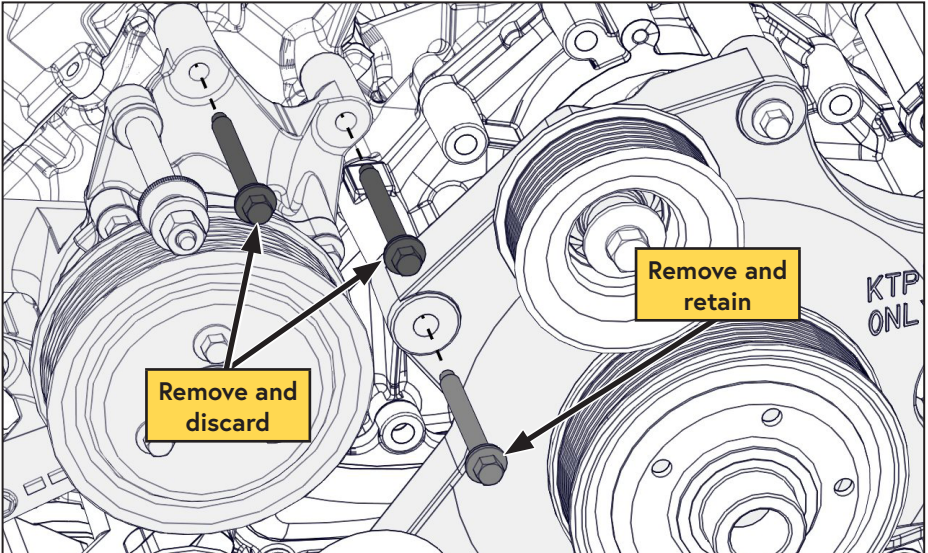

Figure 9 — Preparing for compressor installation
- Remove and discard the (x2) indicated water pump fasteners (Figure 9).
- Remove and retain the indicated fastener (Figure 9).